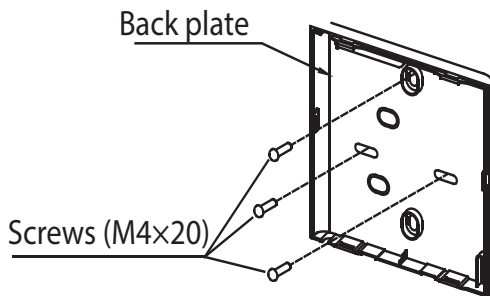

Fig. 9 – Flush Mounting
2. For switch box mounting, fasten the back plate on the switch box with 2 screws (M4x25) and fasten it on the wall with 1 screw (M4x20) (see Fig. 9).